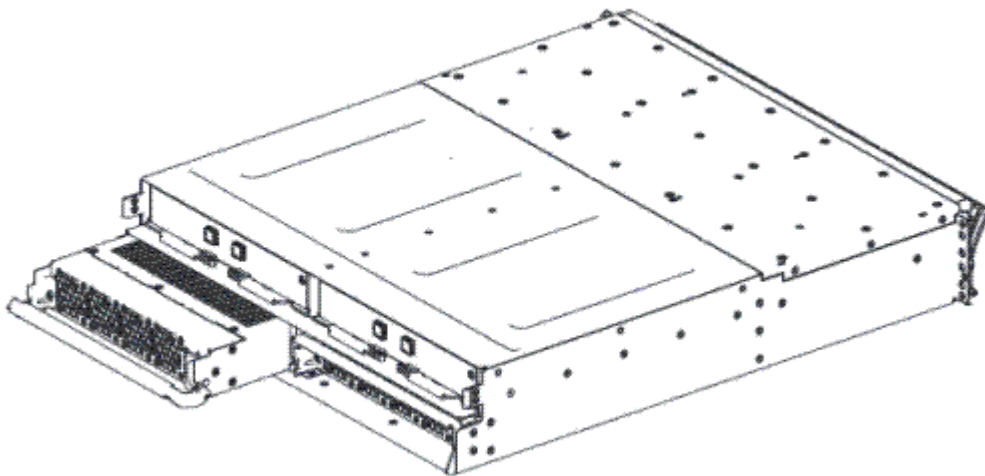

Figure 90. Removing the power supply unit from the left side of the expansion enclosure
5. Using the handle, gently slide the power supply out of the enclosure, as shown in Figure 90 on page 141.